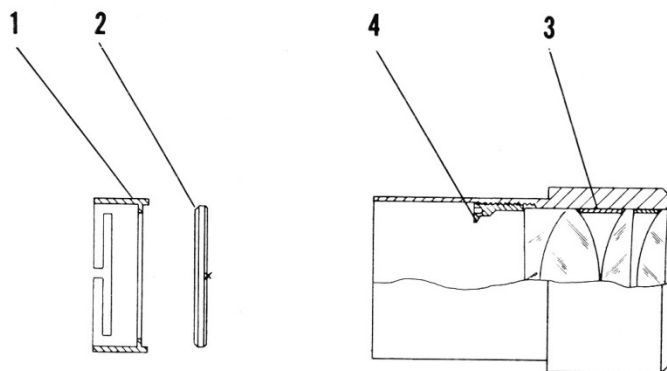

Figure 3. 15X Eyepiece - Catalog No. 147
To insert a reticle into 15X eyepiece, simply place reticle (2, Fig. 3) (ruling "up"), into reticle mount (1). Now slide mounted reticle into eyepiece tube until reticle seats against the field diaphragm.